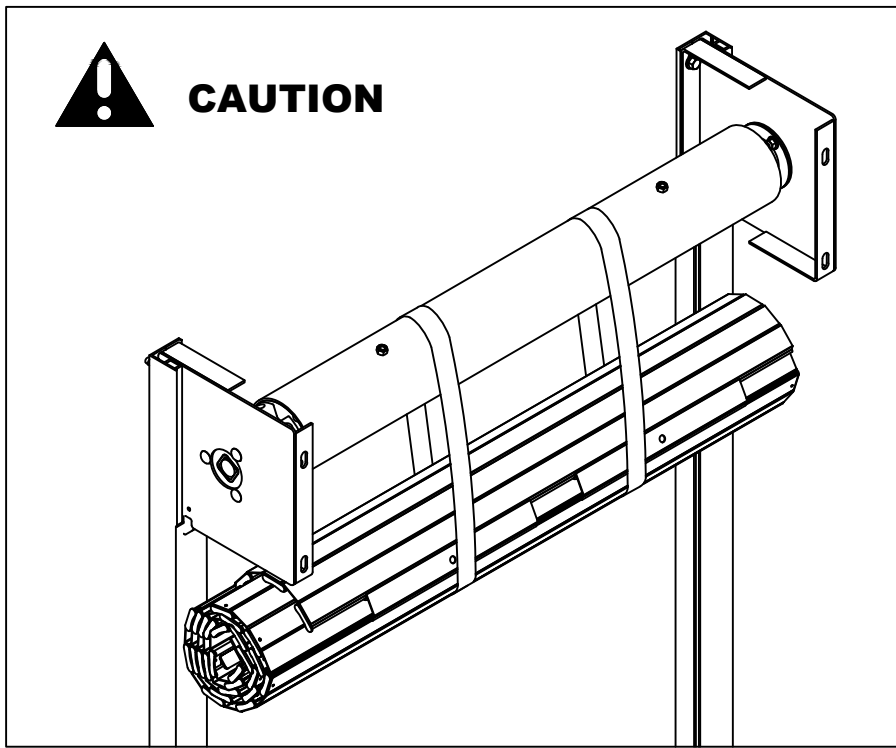

FIGURE 11
- b. Center the factory rolled curtain assembly between the guides as shown in Figure 11.